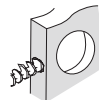

Figure 3b
- Drill 1" (25mm) hole in center of door edge for Deadbolt Latch Assembly (Figure 3b).